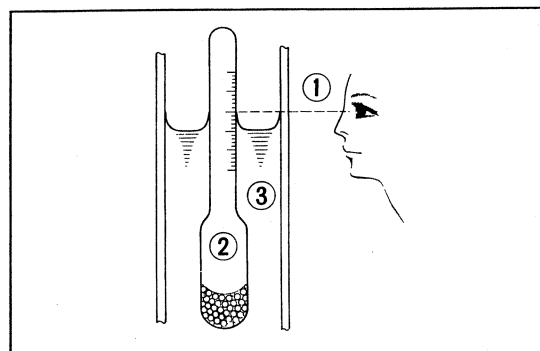

Fig. 160 ① Eye level ② Hydrometer ③ Battery electrolyte
① Front fork puller
1) Measure the specific gravity of the battery electrolyte with a hydrometer and if it is below 1.200 (corrected to 20°C), the battery should be recharged. The specific gravity is calibrated on the stem of the float and the reading is taken at the fluid level with the float buoyant. (Fig. 160)